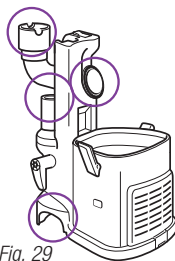

Fig. 29
- Remove the dust cup and extension wand and separate the detachable canister from the motorized floor brush. Look in all 4 openings for any blockages. (Fig. 29)